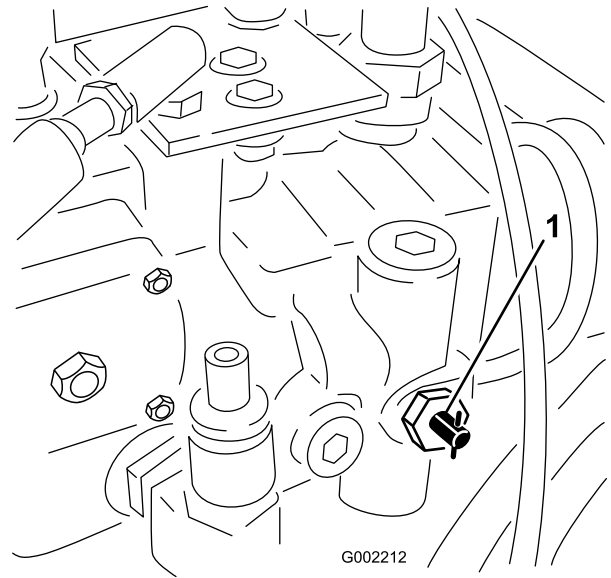

Figure 27
1. Rotate the tow valve (Figure 27) 90 degrees in either direction to open it.